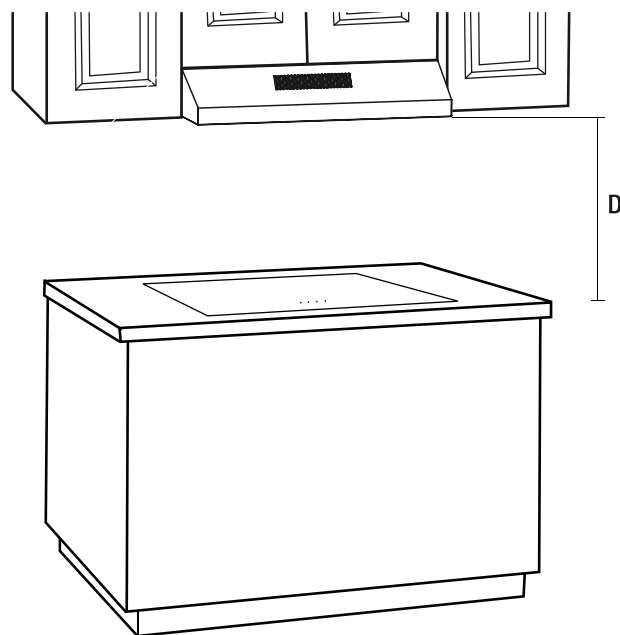

Fig. 1
2. If you choose to hang the range hood as below (Fig. 1) distance (D) from the cooktop surface, use extra caution as the surface of range hood may be extremely hot to the touch. For this unit, (D in Fig. 1) is 458 mm - 710 mm (18 in - 28 in). If you choose an 18 in installation, the temperature of the unit surface will be high if the unit is operated under high power cooking for a certain amount of time.